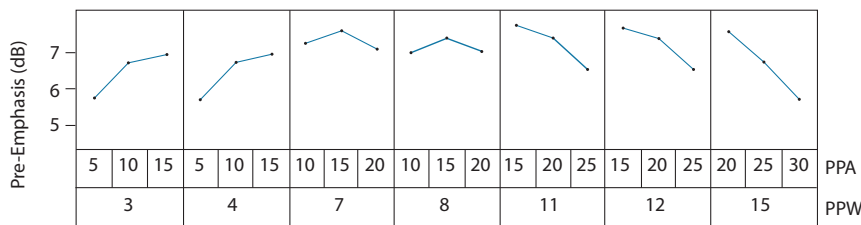
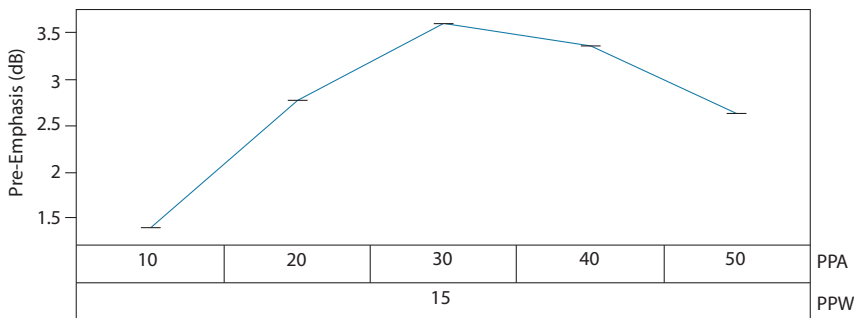

Figure 4-12: Pre-emphasis Settings for $VCCO_1 = 1.2V$ and $DS = 7$ (swing = $200mV_{pp}$)
Figure 4-19: Pre-emphasis Settings for VCCO_1 = 2.5V and DS = 35 (swing = 800mV_{pp})
The only requirement of the Trace Driver pre-emphasis settings is to minimize ISI introduced by a lossy link and maximize the eye opening at the receiver. The pre-emphasis compensation of the GS3590 output channel is a two-step process. The first step is to use the settings from Figure 4-12 to Figure 4-19 that best match the insertion loss of the link in the application, while the second step is a fine optimization procedure.
1. Pre-emphasis Amplitude (PPA) Optimization: Set the PPA and PPW to the values obtained from the graph selected out of Figure 4-12 to Figure 4-19, and then measure the downstream jitter. While keeping PPW constant, increment the PPA by 'a'. If the jitter is lower after the first increment, continue to increment by 'a' until the jitter begins increasing or a setting of 50 is reached. If there was a setting which resulted in a lower jitter measurement than the initial setting, that is the Optimized Pre-emphasis Amplitude setting: $PPA_{Optimal}$, and the PPA optimization procedure is complete.
If incrementing the PPA or decrementing the PPA did not result in a setting with lower jitter, then the initial setting obtained from the graph selected out of Figure 4-12 to Figure 4-19 is the PPA optimized Pre-emphasis Amplitude setting: $PPA_{Optimal}$.
2. The second step is to set the PPA to the optimized setting $PPA_{Optimal}$ determined in step 1 and PPW to the values obtained from the graph selected out of Figure 4-12 to Figure 4-19, then measure the downstream jitter. While keeping PPA constant, increment the PPW by 'w'. If the jitter is lower after the first increment, continue to increment by 'w' until the jitter begins increasing or a setting of 15 is reached. If there was a setting which resulted in a lower jitter measurement than the initial setting, that is the Optimized Pre-emphasis Width setting: $PPW_{Optimal}$, and the optimization procedure is complete.
If incrementing the PPW or decrementing the PPW did not result in a setting with lower jitter, then the initial setting value obtained from the graph selected out of Figure 4-12 to Figure 4-19 is the optimized Pre-emphasis Width setting: $PPW_{Optimal}$.